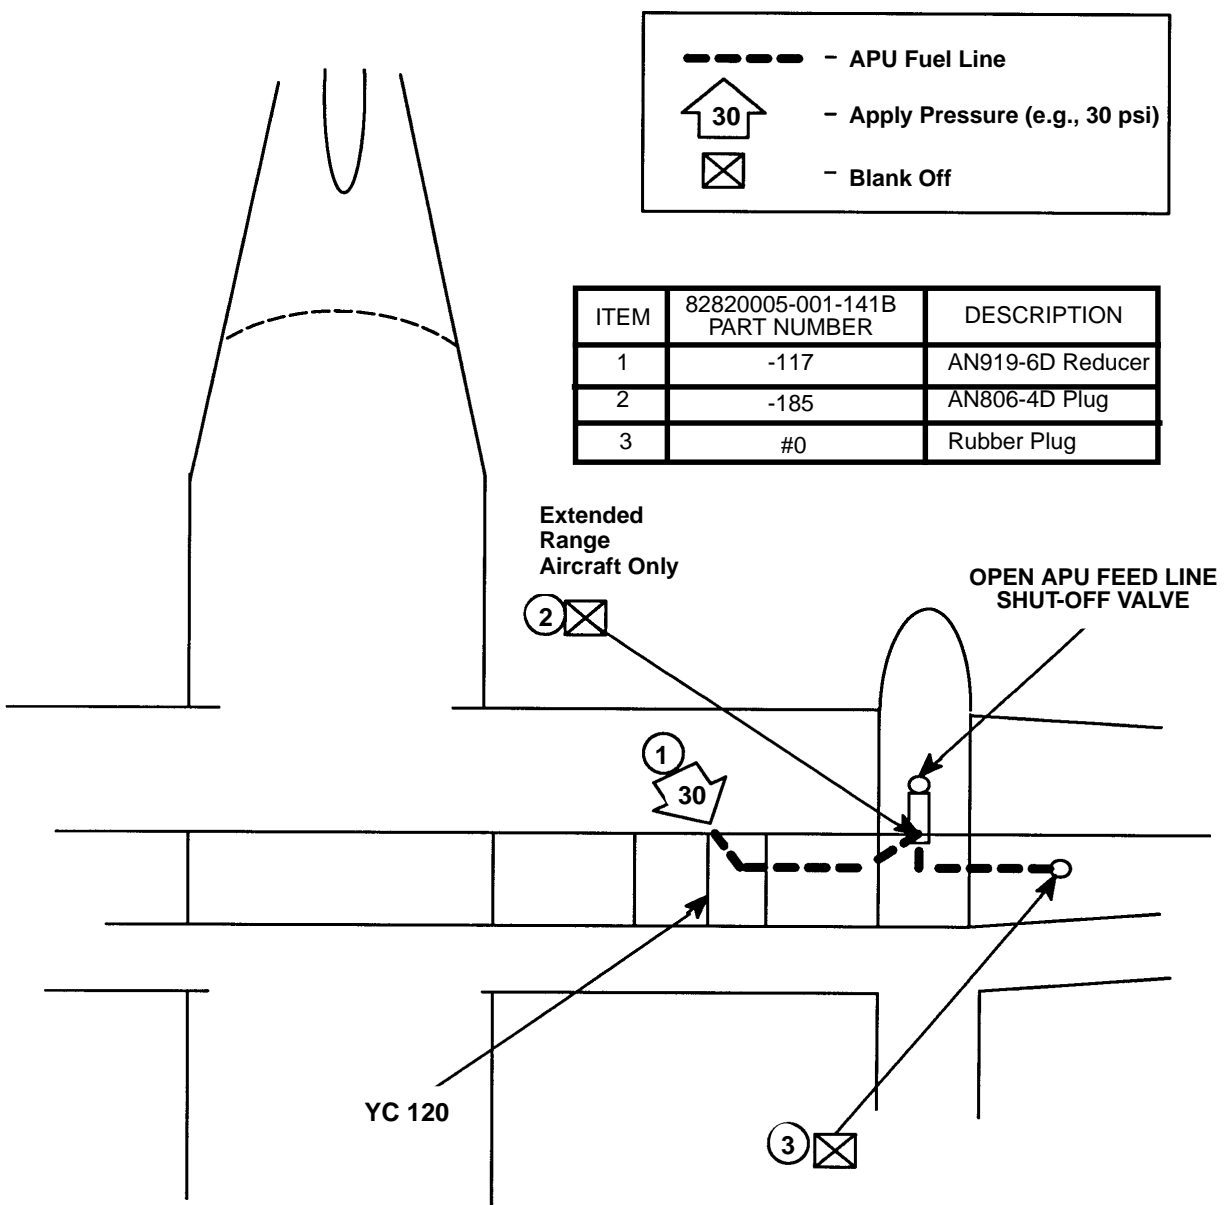
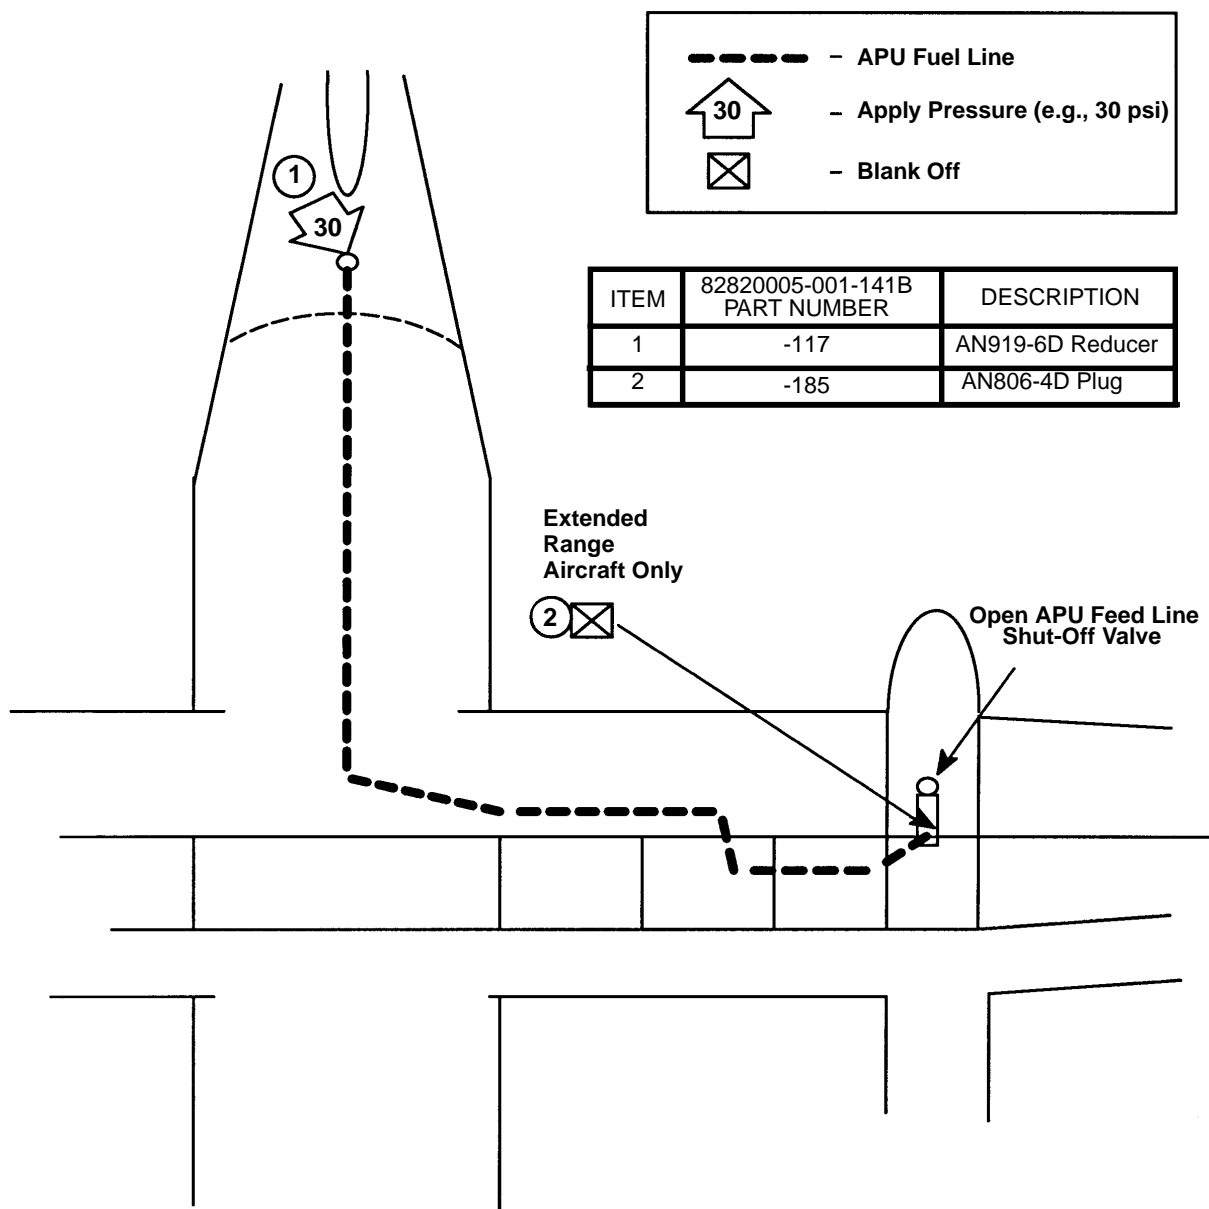

Figure 1 - Pressure Test - APU Fuel Line
Figure 2 - Pressure Test - at Station 3
- Install all fluid system components according to PPS 6.03 and the engineering drawing. Blank off all fuel lines, valves, etc., using the appropriate blanks and adaptors from the blanking kit as listed in Figure 1 and Figure 2.
- Perform the first pressure test at work station 3 and the test APU line from the strainer in the collector bay of the left hand wing to station YC120.00 at the rear spar position as shown in Figure 1.
- Perform the second pressure test at work station 3, testing the line from the rear spar to the APU as shown in Figure 2.